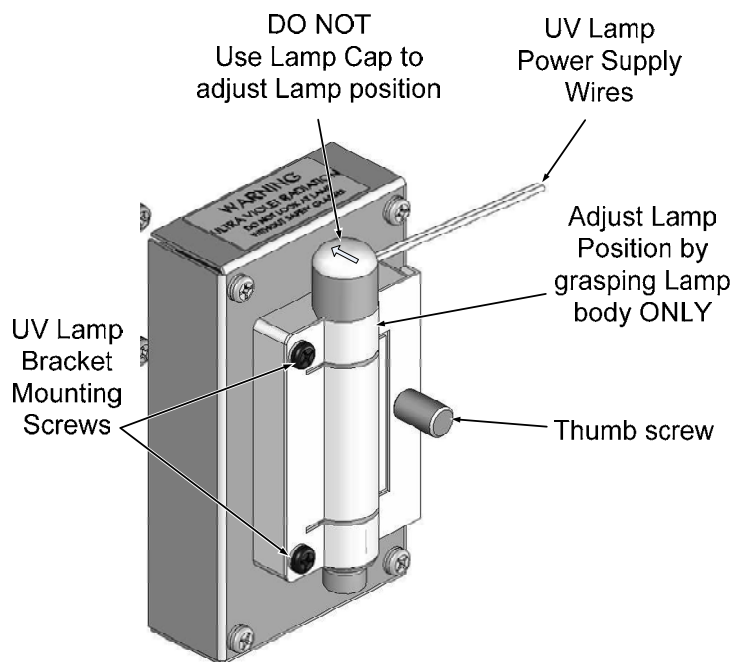

Figure 10-13. UV Lamp Adjustment
2. Slightly loosen the large brass thumbscrew located on the shutter housing (refer to Figure 10-13) so that the lamp can be moved.
4. Loosen, but do not remove the two UV lamp bracket screws and the large brass thumbscrew located (refer to Figure 10-12 and Figure 10-13) on the shutter housing so that the lamp can be moved.